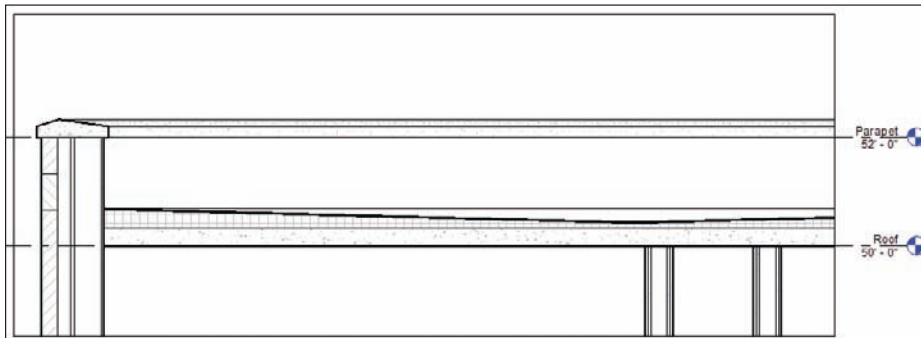

FIGURE 7.19 By adding the points to the roof, you now have an almost perfect section.
8. Adjust the crop region so you are looking only at the roof area, as shown in Figure 7.19.